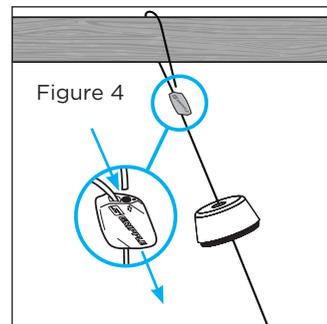

Figure 4
3. Pass tail end of cable through the other channel of the Gripple (see Figure 4).